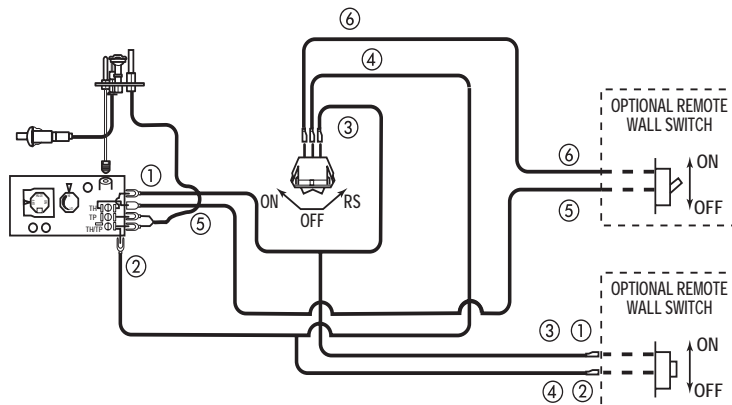

Figure 26 - Wiring Diagram for Wall Switch
A remote wall switch and up to fifteen (15) feet of 18 Ga. wire may be used with this appliance. Attach the wall switch in a junction box at the desired location on the wall. See Figure 26. Do not extend beyond the wall switch wire length provided.